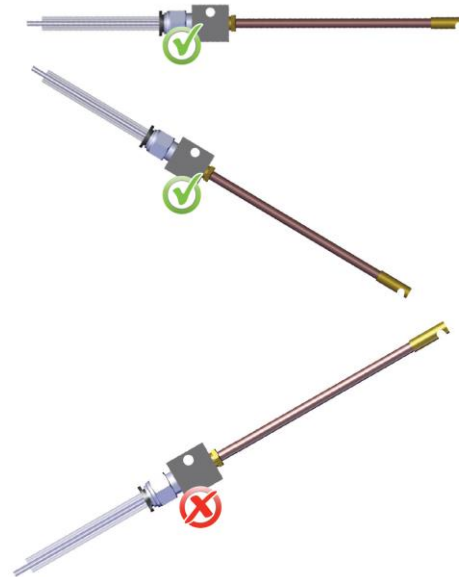

Figure 45: Proper nozzle positioning
- Mounting the nozzle coupler block at an angle so fluid flows down into, and eventually out of, the nozzle. See Figure 45 for an example of proper nozzle coupler block mounting.